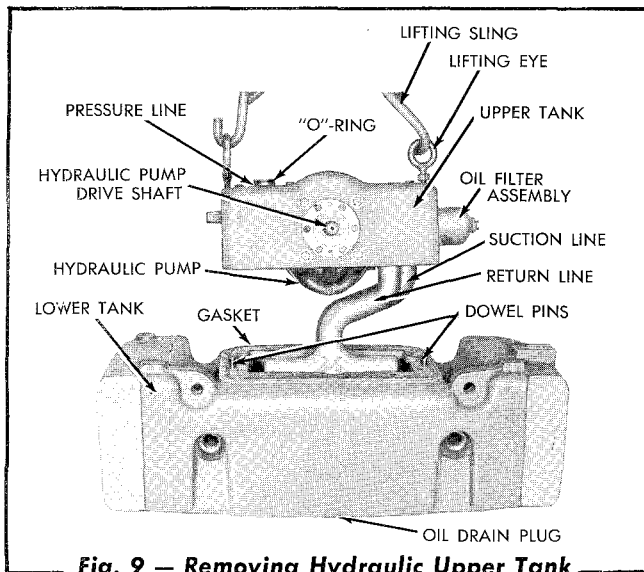

Fig. 9 — Removing Hydraulic Upper Tank Assembly from Lower Tank (HD 21 Shown — HD 16 and HD 11 Similar)
2. Remove the oil drain plug (Fig. 9) from the bottom of the hydraulic lower tank and allow the oil to drain.
1. Thoroughly clean the interior of the upper tank. *CAUTION: Some of the component parts are cast aluminum, therefore, care should be taken during assembly to properly align all mating parts before the attaching capscrews are tightened.* When installing the pump and lines, refer to Figs. 9 and 10.
11. Lower the upper tank assembly onto the lower tank as shown in Fig. 9, inserting the suction line and oil return line into the lower tank. Position the upper tank on the dowel pins of the lower tank and install eight $\frac{1}{2}$ " NF x $8\frac{1}{8}$ " capscrews and copper washers. Tighten the capscrews evenly to a torque of 50-60 lbs. ft. Install the control valve assembly (refer to Section III, Topic 3).